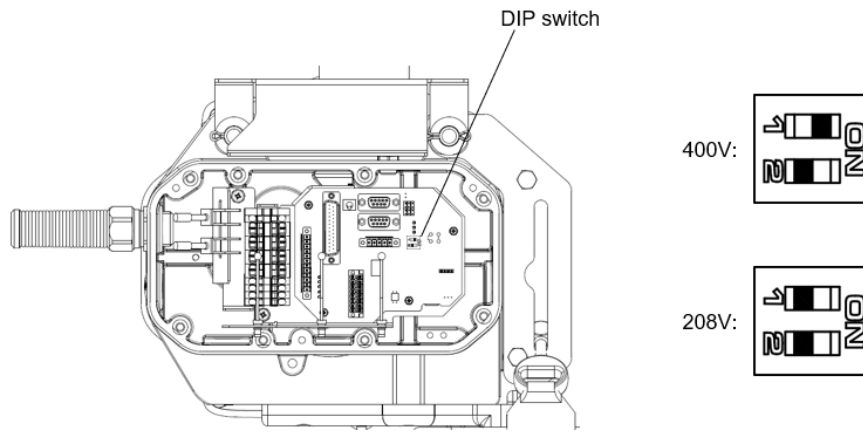

Figure 27. Voltage DIP switch
3. Reposition the DIP switch as shown in Figure 27.